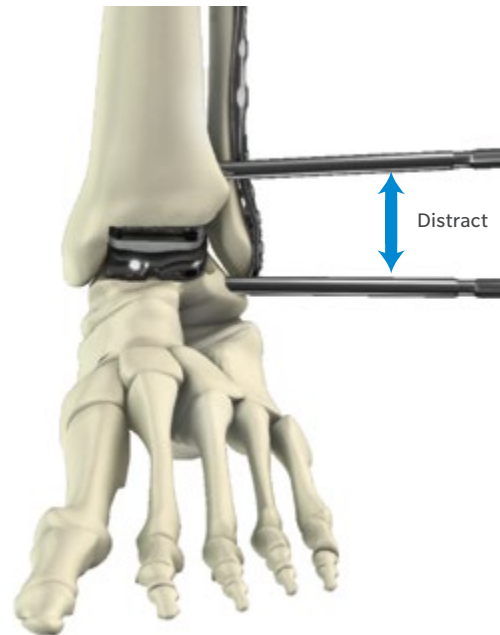

Fig. 100
- Apply sufficient distraction to allow slight gapping between the Poly Insert and Talar implant (Fig. 100).